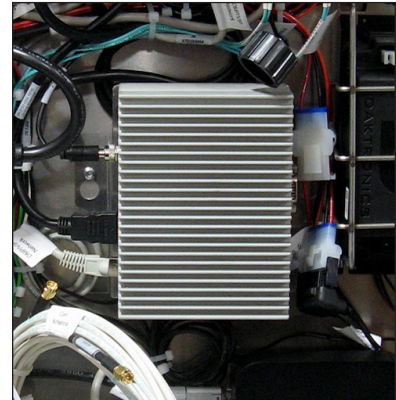

Figure 33: DMP-8000
The Digital Media Processor (DMP) receives the content from the Internet and sends it to the PLRs within the display and to the modules. All of the connections for the DMP are located on the bottom of the unit. Refer to **Figure 33**.
2. Disconnect the HDMI cable from the DMP-8000. Refer to **Figure 33**.